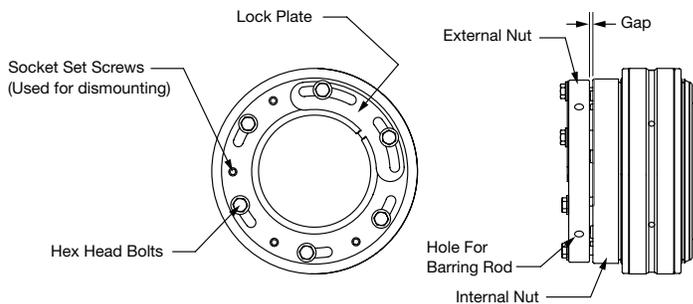
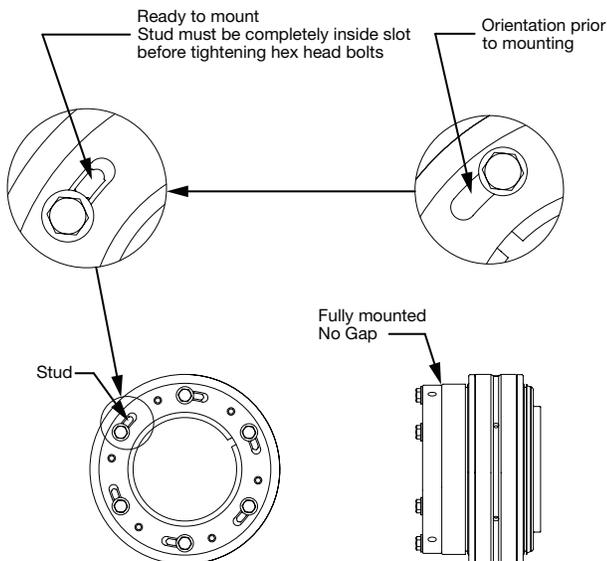
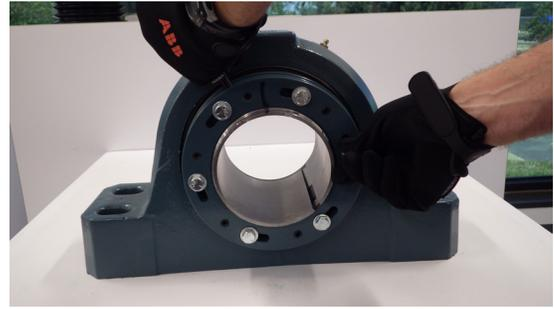
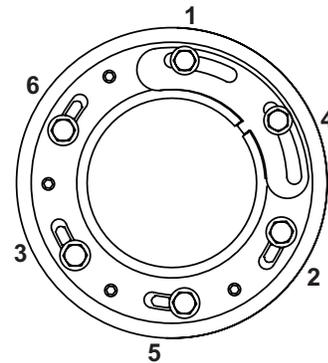

Figure 1 - Bearing with dual nut as shipped with gap.
Figure 3 - Nut rotated and ready for installation
Figure 4 - Holding external nut with rod and rotating internal nut C-Clockwise using hex head bolt
Figure 5 - Correct installation star pattern
The locknut assembly is comprised of an external nut and internal nut. The bearing is shipped such that there is a gap between the two nuts. The two nuts must maintain this gap prior to mounting the bearing. The dual nut configuration prior to installation is shown in Figure 1. Note the position of the external nut slots relative to the hex cap bolts.
5. Loosen but do not remove the hex head bolts. Use 9mm rod to hold external nut in position when loosening the hex head bolts. While holding the external nut with a 9mm rod, grasp one of the hex head bolts, and rotate the internal nut counter clockwise to shoulder the hex head bolts as shown in Figure 3. See Figure 4 demonstrating this step. **If the external nut moves during this step, it is imperative to reposition the nut assembly so that the external nut is positioned with the alignment mark made in step 4 before proceeding to the next step. Make sure the spacing stud is visible in the slot as shown in Figure 3, or the nut will not install correctly.**
6. At this point the machined studs used to create the gap have been positioned inside the elongated slots, and the two nuts can be pulled together, which installs the bearing on the shaft. **If the external nut moves during this step, it is imperative to reposition the nut assembly so that the external nut is positioned with the alignment mark made in Step 4 before proceeding to the next step.** Gradually tighten the hex head bolts in a star pattern, as shown in Figure 5, until the external nut firmly seats against the internal nut and the gap is completely closed as shown in Figure 3 (Not yet full torque).
7. Remove two hex head bolts nearest to the slot in the adapter. A slight gap may appear between the two nuts when these two hex head bolts are removed. This is a normal occurrence and the gap will close up when the two hex head bolts are reinstalled. Install the lock plate so that the tab fits into the adapter slot. If the lock plate does not line up with the two holes, it can be flipped over to fit as shown in Figure 1. Reinstall the two hex head bolts to secure the lock plate. **Using a star pattern, as shown in Figure 5, torque the hex head bolts to the values shown in Table 1.** It is considered a best practice to initially tighten the hex head bolts to 50% of full torque, then tighten again to 100% full torque (using the star pattern both times).